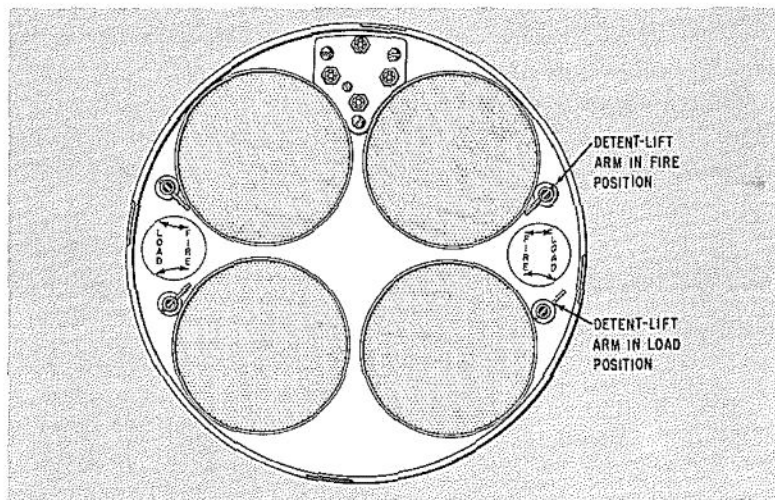

FIG. 21. Detent-Lift Arm Showing LOAD and FIRE Positions.
4. Using the detent-lift tool, rotate all detent-lift arms to the LOAD position (Figure 21).
6. Using the detent-lift tool, rotate the detent-lift arm to the FIRE position (Figure 21).